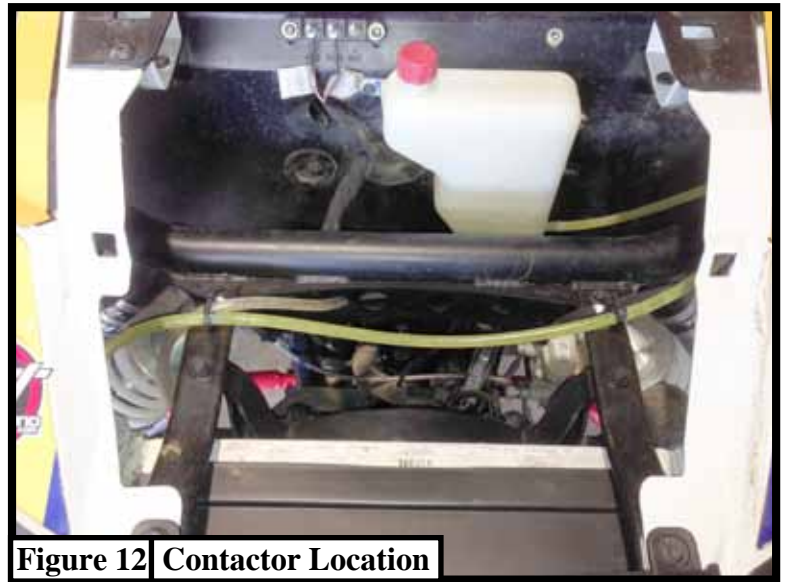

Figure 12 Contactor Location
1. For contactor location please see “Figure 12”. There is no set location for the contactor on this machine. *We suggest placing it some where under the hood that is out of the elements.*